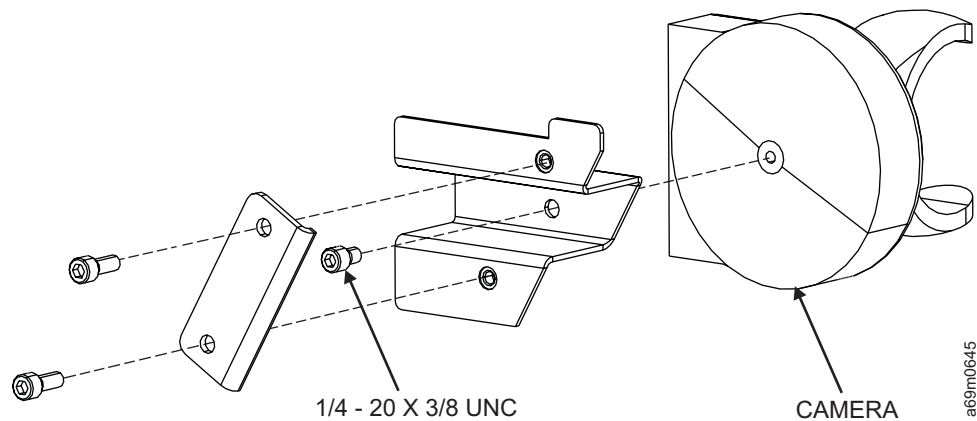

Figure 27. Camera mounting example
3. Attach the web camera to the mounting hardware as shown in Figure 27 on page 115.